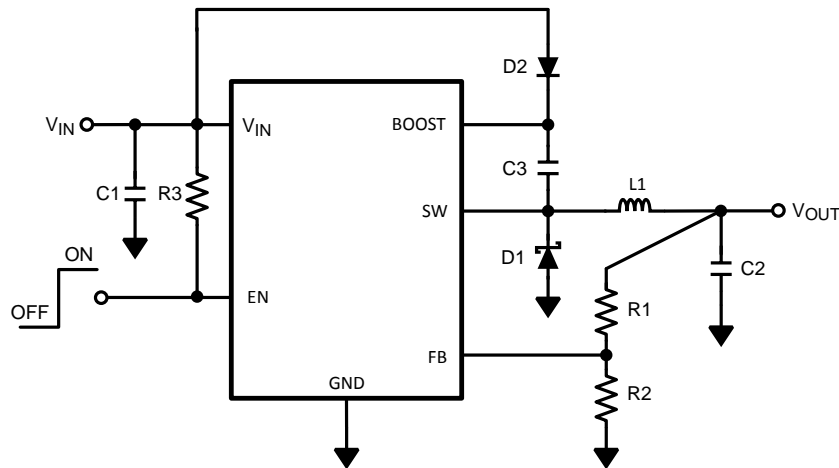

**Figure 28. LMR12007X (1.6MHz)**
**Table 5. Bill of Materials for Figure 28**